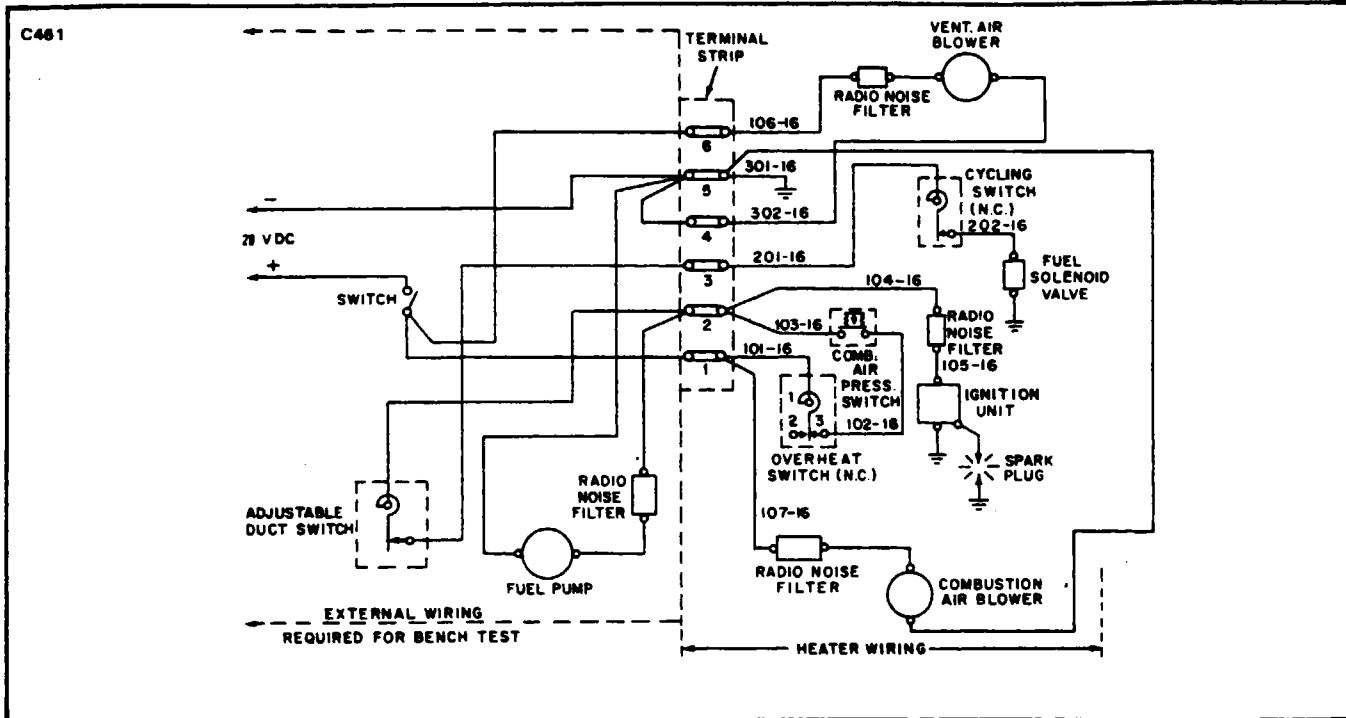

Figure 13-34. Wiring Connections for 39D59 Heater Operation Test, System No. 1
- c. Connect components and heater as outlined in the wiring connection diagram, Figure 13-34, 13-35 or 13-36. The power supply switch should be open.